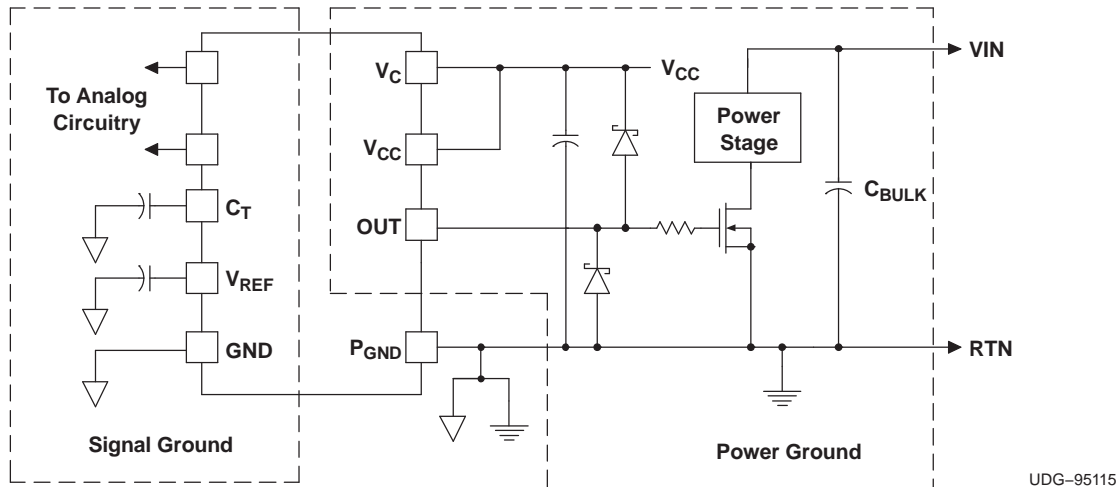

Figure 13. Ground Planes
Each totem-pole output of the UC2825A-EP can deliver a 2-A peak current into a capacitive load. The output can slew a 1000-pF capacitor by 15 V in approximately 20 ns. Separate collector supply (VC) and power ground (PGND) pins help decouple the device analog circuitry from the high-power gate drive noise. The use of 3-A Schottky diodes (1N5120, USD245, or equivalent) (see Figure 13) from each output to both VC and PGND are recommended. The diodes clamp the output swing to the supply rails, necessary with any type of inductive/capacitive load, typical of a MOSFET gate. Schottky diodes must be used because a low forward voltage drop is required. Do not use standard silicon diodes.